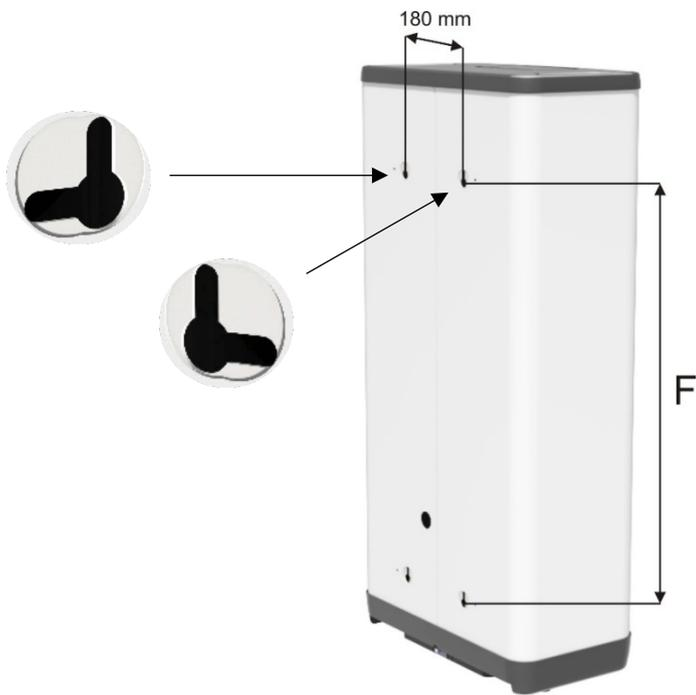

Figure 3
**Mount the water heater in vertical position.** The fixing wood screws must have guaranteed spacing  $t=180$  mm and spacing  $F$  according to the heater volume (Figure 3) or with hinges. 2 upper hinges are attached to the wall and 2 lower hinges are fitted into the bottom holes on the heater, the lower hinges serve as abutment (Figure 4). **Hinges (4 pcs) are included in package.**